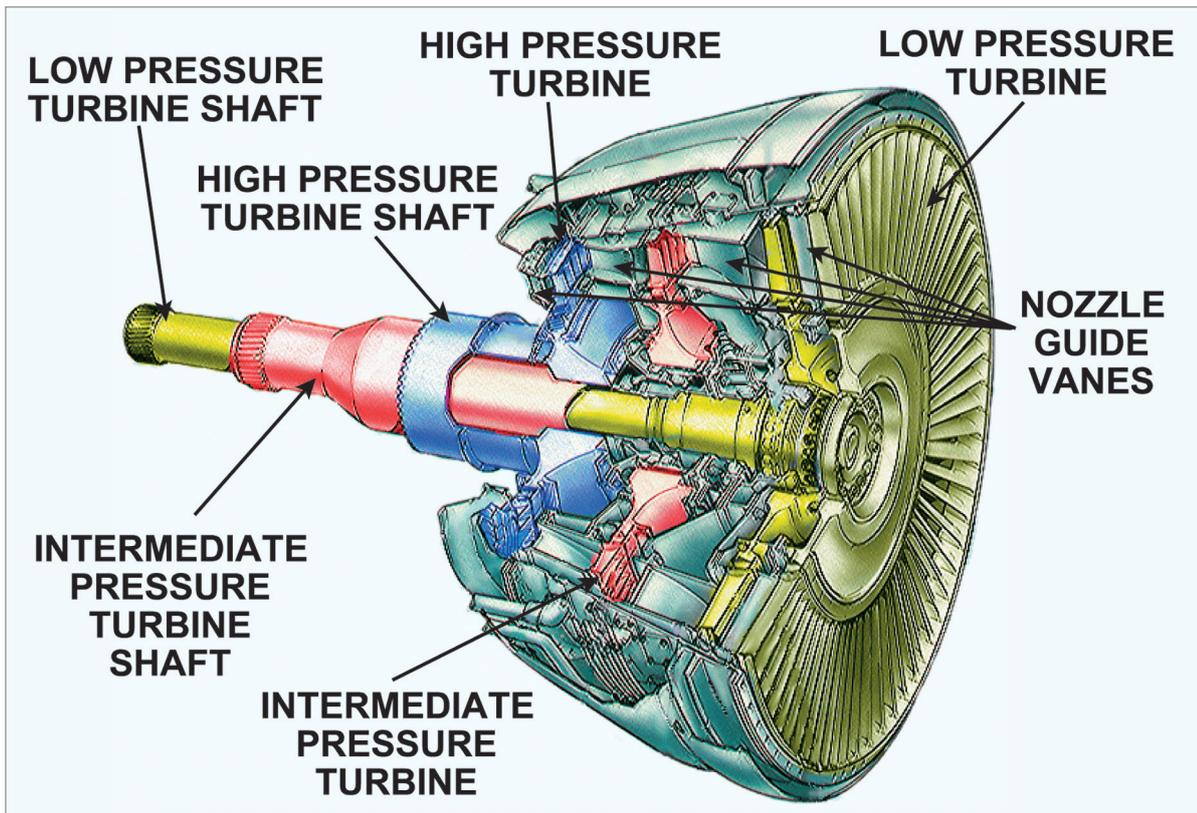

Figure 17.3 The turbine assembly of a triple spool engine.
This type of engine features three spools, see Figure 17.3, the high pressure (HP) turbine driving the high pressure compressor at relatively high speeds, and to the rear of that is the intermediate pressure (IP) turbine, driving the intermediate pressure compressor through a shaft inside that of the high pressure turbine.